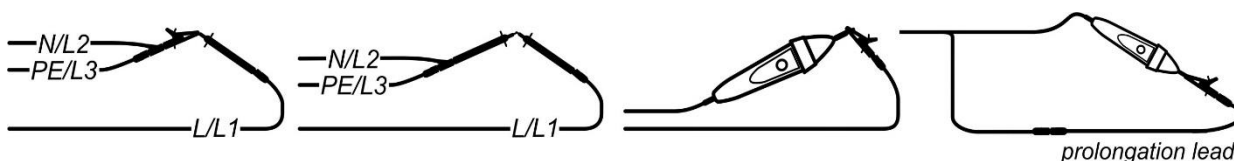

Figure 5.16: Shorted test leads
- Connect** test cable to the instrument and short the test leads together (see Figure 5.16).